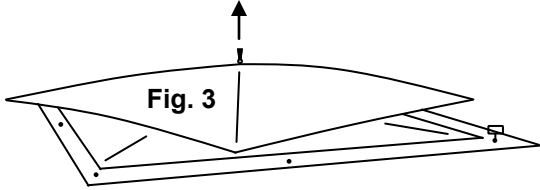

Fig. 3
3) Pull up on top hub or pull out side hub, whatever is easiest. (Fig. 3)